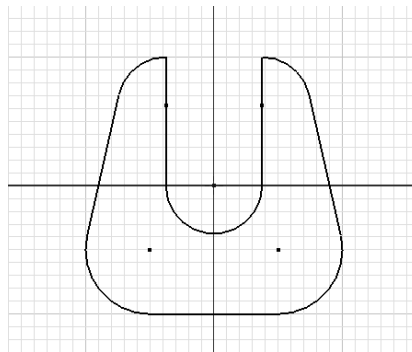

Figure 3-56 The sketch after applying all constraints
11. Select the center point of arc 6; the entire sketch moves to make the sketched point coincident with the center point of the arc. The sketch, after applying all constraints, is shown in Figure 3-56.